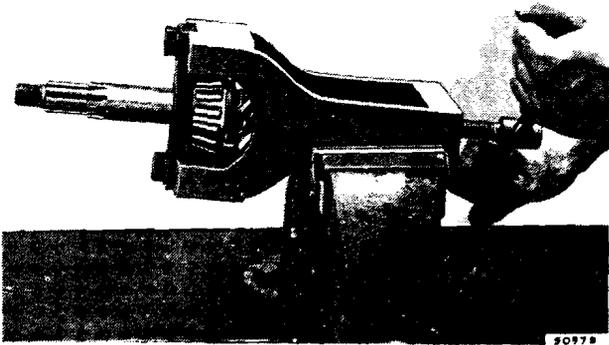

Fig. F.14
- (1) Fit the selected spacer with its chamfer towards the pinion head.
- (2) Fit the pinion bearing outer races if they have been removed for any purpose.
- (3) Fit the inner race and roller assembly of the rear bearing onto the pinion shaft, using tool 18G285 (Fig. F.14), and position the shaft in its housing, engaging the bearing in its outer race.
- (4) Replace the pinion bearing distance piece.
- (5) The pinion bearing preload of 16 to 18 lb. in. (.184 to .207 kg. m.) with the oil seal in position must now be determined by the selection of shims, which vary in thicknesses of .002 in. (.05 mm.)